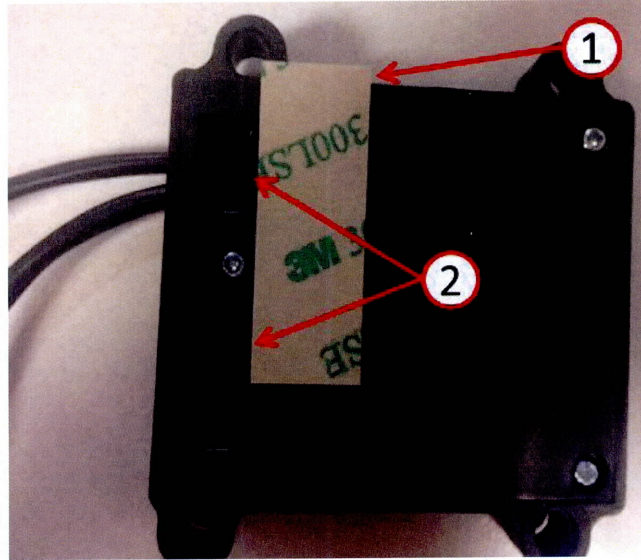

Fig. 1 Module and Tape Placement Location
5. Apply the tape as shown in (Fig. 1).